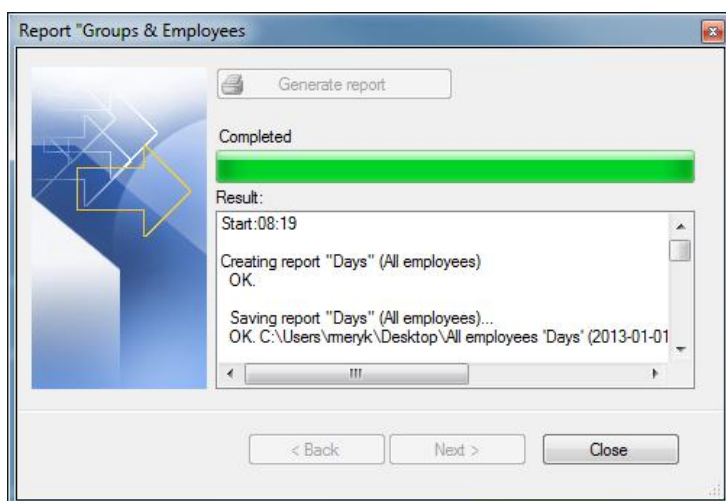

Figure 51. Generating report progress window
Step 4. Generating report progress windows (figure 51). After generation, the summary message is displayed.